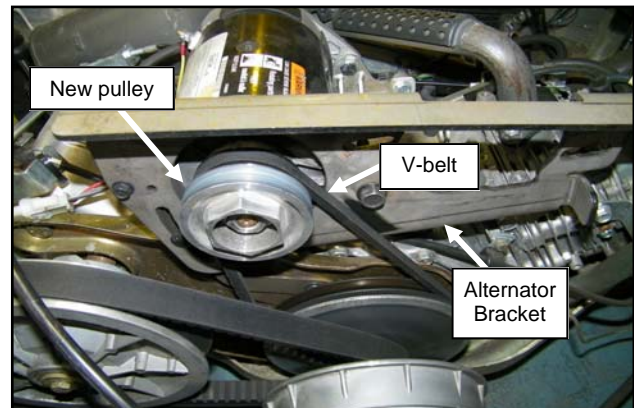

Fig. 1.7 (Install Starter Generator Belt)
- 1.7** Re-install the OEM V-belt onto the new starter generator pulley. Tension the V-belt, and tighten the screws that secure the starter generator. Figure 1.7.